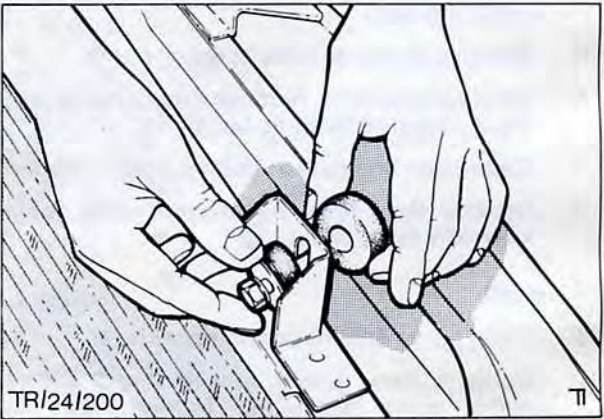

Fig. 7. Secure radiator ensuring bushes are positioned as shown
8. Guide radiator and expansion tank into vehicle and secure using rubber bushes and bolts, Fig. 7.